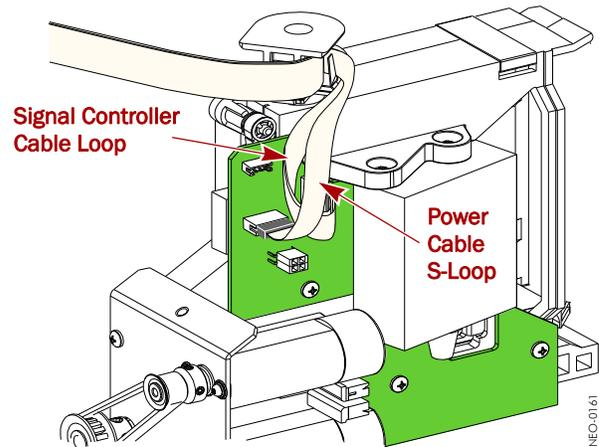

Figure 9. Connect the Shuttle Signal Controller Cable
- b. Without bending the cable, carefully loop and insert the **Signal Controller cable** into the Signal Controller cable connector (Figure 9).